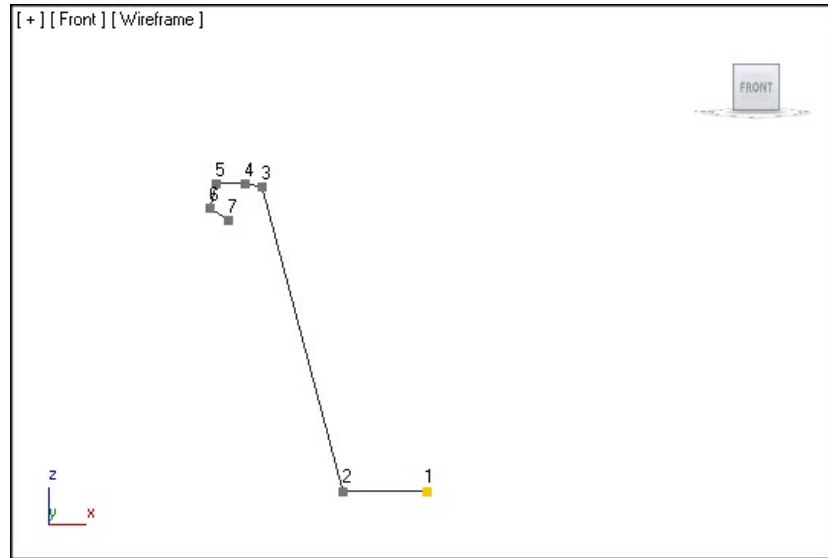

Figure 6-74 A line spline created for the vase
3. Create a line spline as discussed in Tutorial 1. This spline should be similar to the half portion of the vase, refer to Figure 6-74.